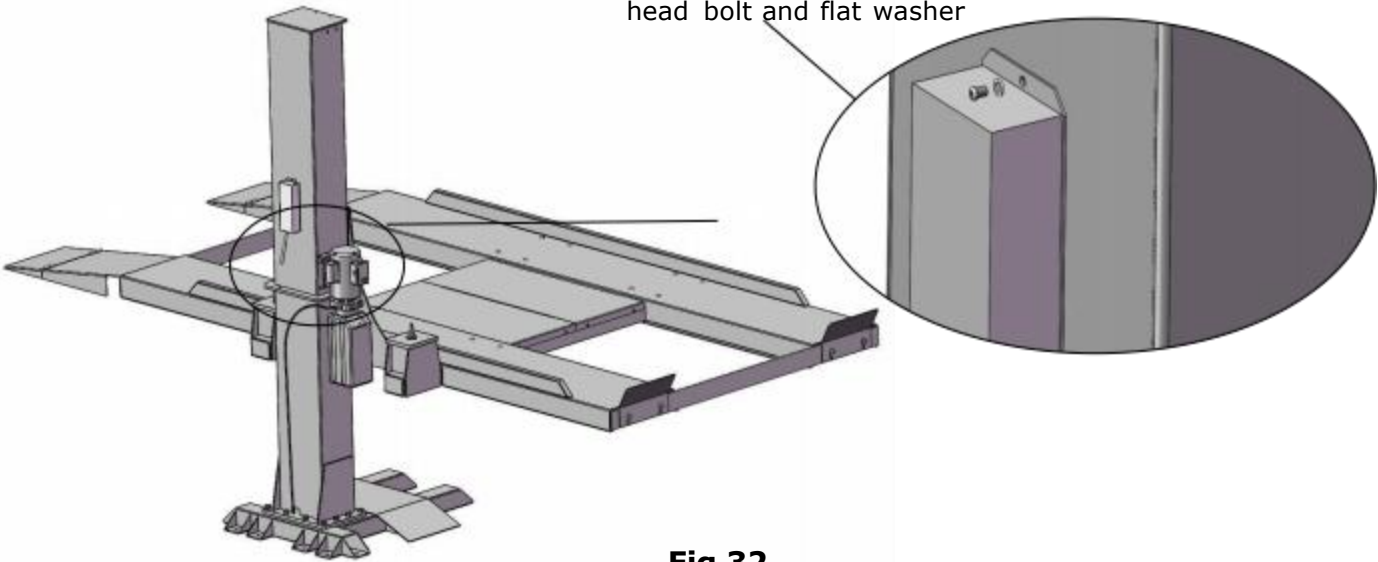

Fig.32
M. Install safety device cover (See Fig.32)